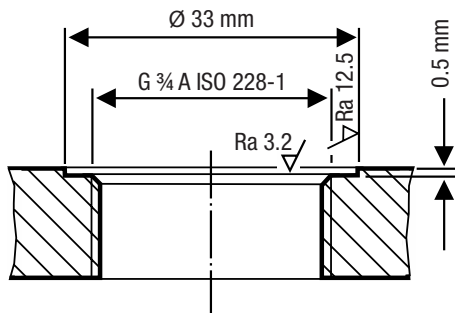
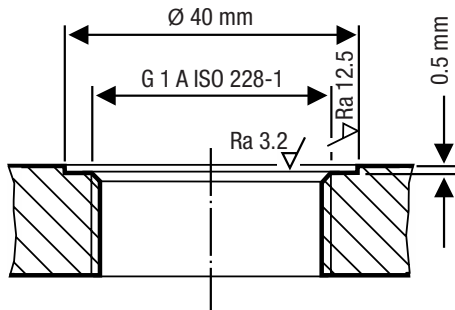

Fig. 10
Fig. 11
- Inspect the sealing surfaces of the tank standpipe and flange cover to ensure they are perfectly machined, see Fig. 10 and Fig. 11.
Sealing surfaces must be perfectly machined as shown in Fig. 10 and Fig. 11.